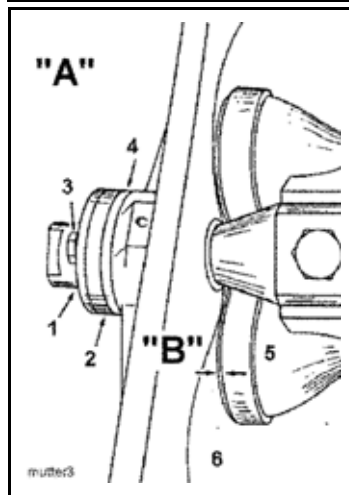
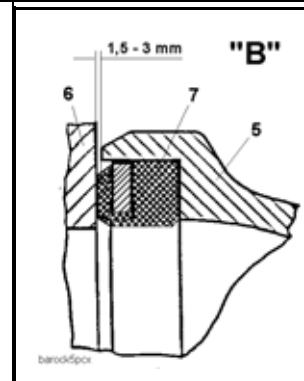

Fig. 313
Fig. 314
A	See detailed view ( Fig. 313 )
B	See detailed view ( Fig. 314 )
No air gap may be visible between the bearing bushing (4), the locking wheel (2) and the adjusting nut (1) (**Fig. 313**), even during operation.
There must be a measurable distance of distance of 1.5 to 3.0 mm between the swivel head (rock) (5) and housing lining (6) while the kidney seal (7) is in contact with the housing lining (6) (**Fig. 314**).
Caption for (Fig. 313) and (Fig. 314)
- Remove safety screw (3) (Fig. 313) together with disc.
- Set distance "B" = 1.5 to 3.0 mm using the adjusting nut (1).
- Align the bore in the collar of the adjusting nut with the nearest threaded bore in the locking disc (2) (rotate the nut forward or backward).
- Attach safety screw (3) with disc.